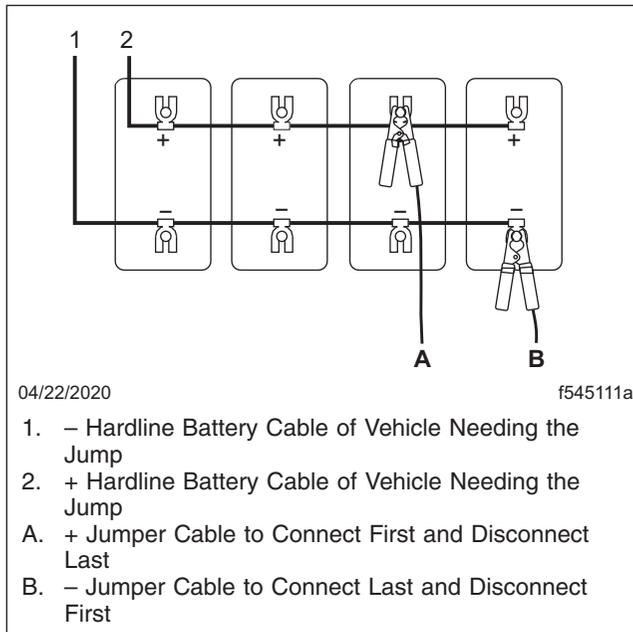

Fig. 26.2, Jumper Connections on Vehicle Needing Jump Start
3. Connect the positive (+) jumper cable to the positive battery post or jump start post on the vehicle needing the jump start. See callout A in Fig. 26.2.
6. Then connect (ground) the other end of the cable to a negative battery or jump start post on the vehicle needing a jump start. See callout B in Fig. 26.2.
10. Disconnect the negative (grounded) jumper cable from the vehicle that needed the jump start. See callout B in Fig. 26.2.
13. Then disconnect the other end of the positive jumper cable from the positive battery or jump start post of the vehicle that received the jump start. See callout A in Fig. 26.2.